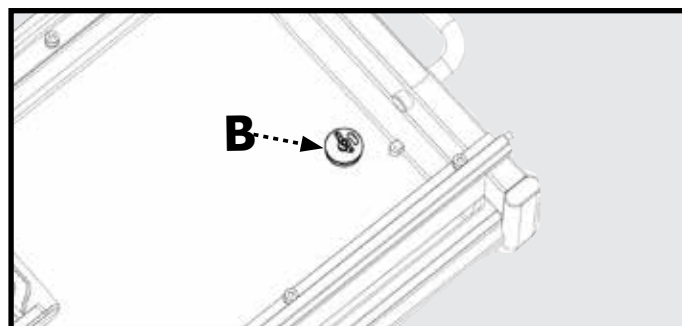

Figure 19
2. Turn the wingnut counter clockwise to loosen drain plug (B, Fig. 19).